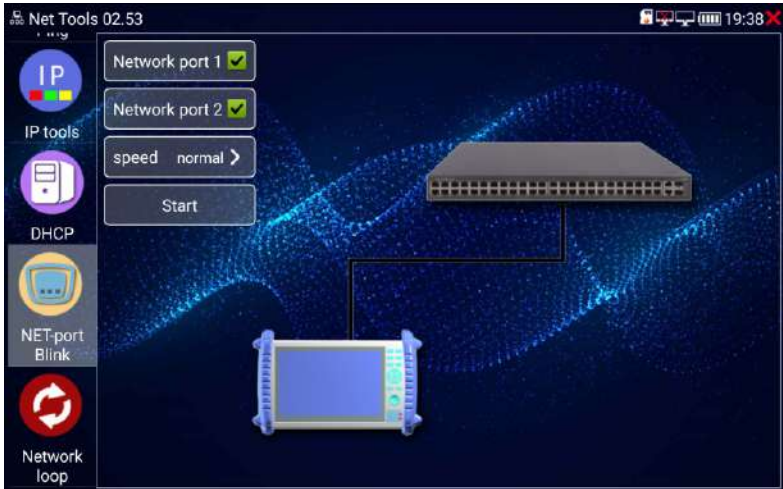

Figure 34
3) NET-port Blink function: Connect one end of the cable to LAN port, touch ‘Start’ button then you can see the port on network device blink regularly, it’s easy to find the other end of a cable by this function, port blink period is 2 seconds, as shown in Figure 34